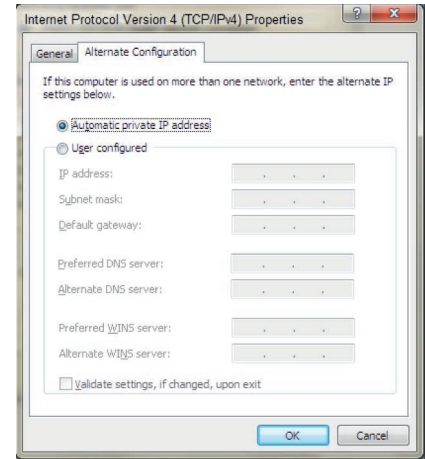

Fig. 15 Internet Protocol Version 4 (TCP/IPv4) Properties
- ➡ 5. Please open now in Internet Protocol Version 4 (TCP/IPv4) Properties window, see Fig. 15, the register Alternate Configuration and activate the checkbox User configured.